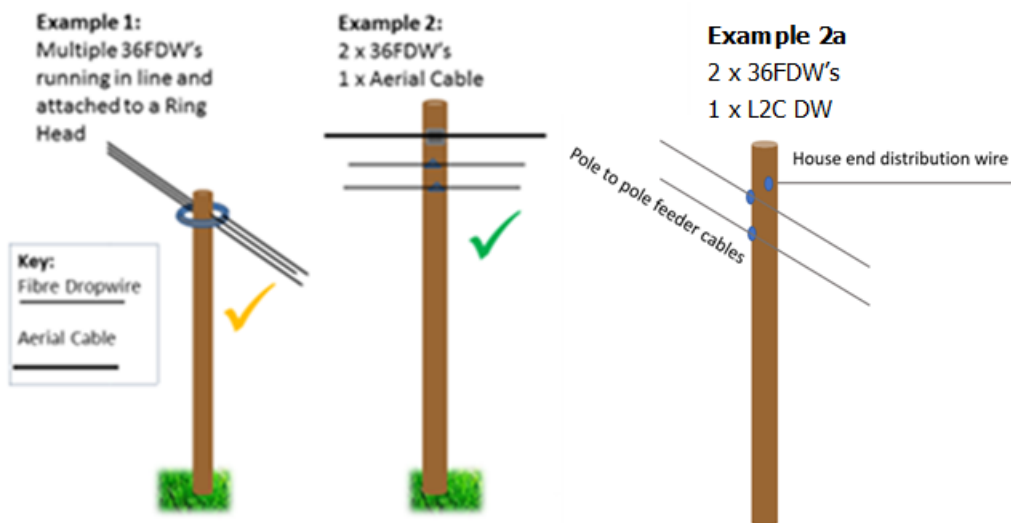

Figure 1 – Pole attachment permutations
- The spacing requirement applies to through wires running in parallel. It does not apply where (as shown in example 2a in figure 1) a through cable is being attached to the pole and a distribution wire exists which is flying in a different direction.